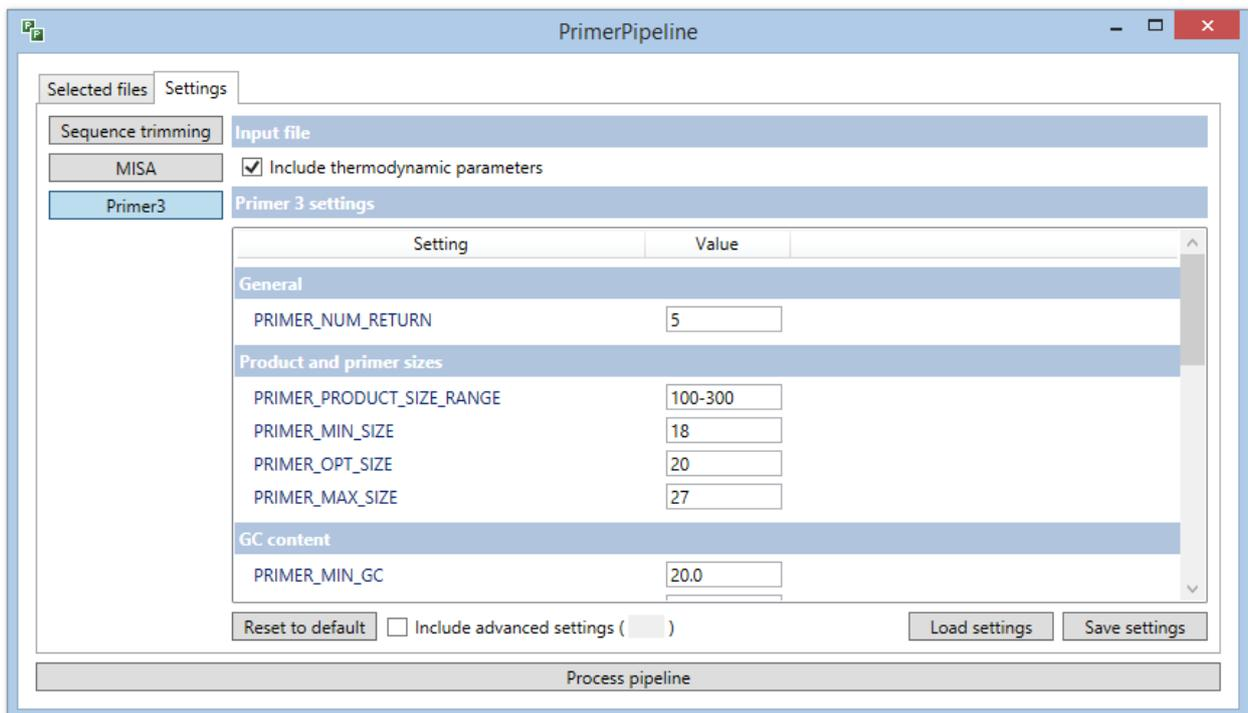

Figure 7. *Settings* tab, with *Primer3* selected, allowing you to edit Primer3 settings (without advanced settings displayed).
- Within the *Settings* tab, Select *Primer3* on the left hand side (Figure 7)
- Press the *Reset to default* to return to default settings at any point, some of which are shown in Figure 7.